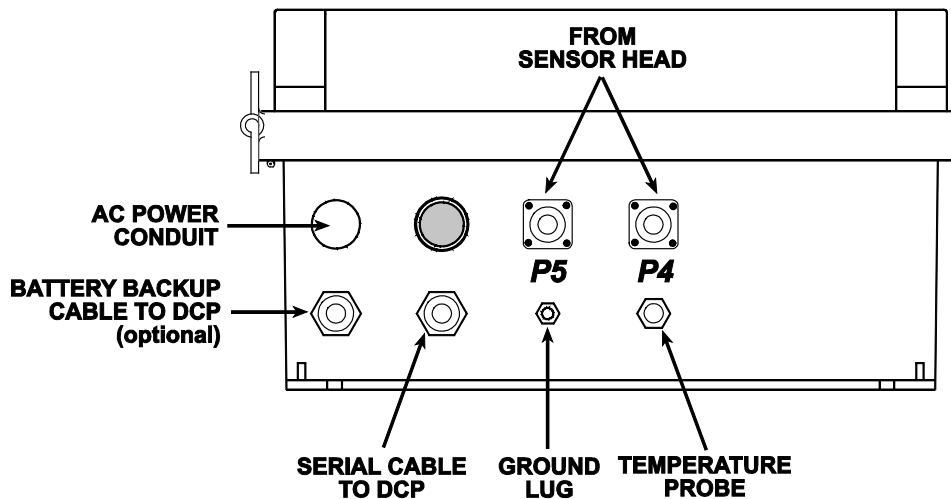

Figure 7. External Connections at Enclosure Bottom
Figure 7 shows the external connections at the bottom of the enclosure.
1. Connect the sensor head cables labeled P4 and P5 to the electronics enclosure connectors shown in Figure 7. The connectors are keyed so they can only plug into the correct receptacle. P4 connects the receiver and P5 connects the transmitter.
2. Feed the free end of the three-conductor RS-485 cable through the serial cable gland shown in Figure 7.
1. Feed the power cable through the conduit fitting shown in Figure 7. A 3-wire 16 to 18 AWG cable is recommended.
2. Feed the free end of the backup battery cable through the serial cable gland shown in Figure 7.